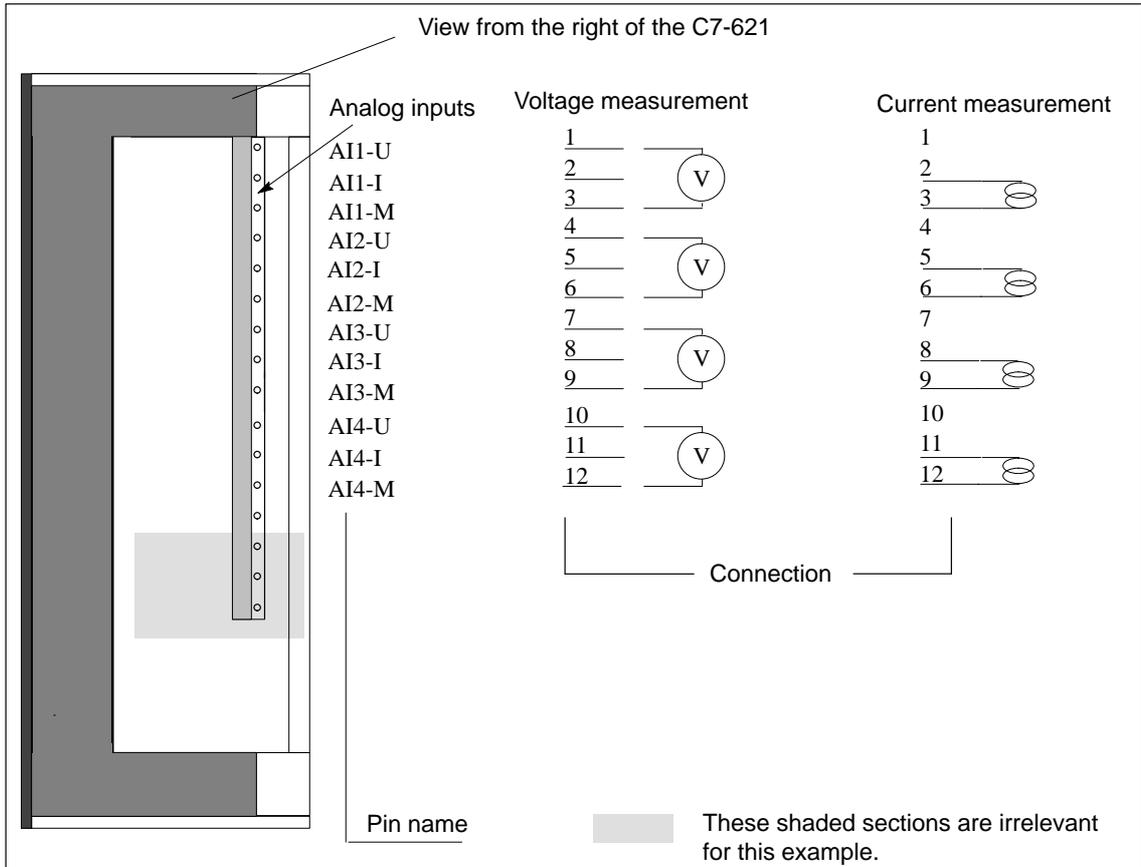

Figure 7-7 Terminal Diagram of the Analog Inputs
**Terminal Diagram** Figure 7-7 shows the terminal diagram of the analog inputs